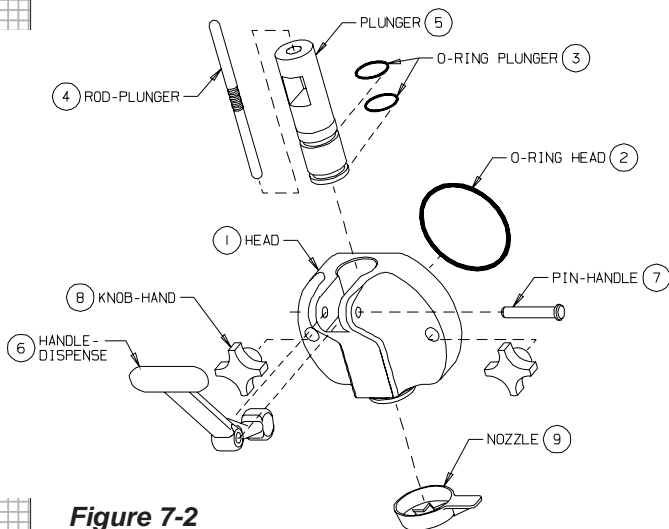
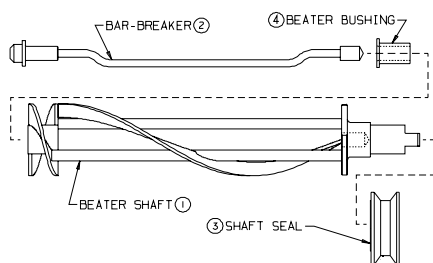
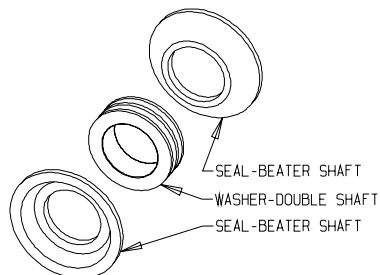

Figure 7-2
Figure 7-3
Figure 7-5
1. Remove plunger rod (4, figure 7-2) by lifting it up and pulling the bottom out and down. Remove the hand knobs (8) and pull the dispensing head (1) straight out.
2. Remove the handle pin (7), plunger (5) and nozzle (9) from head (1).
3. Remove the beater shaft (1, figure 7-3) from the cylinder. Then remove breaker bar (2), beater bushing (4) and shaft seal (3) from the beater shaft.
6. Remove O-rings (2) from mix feed tube (1).
7. Remove regulator (3) from mix feed tube. Remove O-ring (4) from regulator.
8. Remove O-ring (2, figure 7-2) from head (1). Remove O-rings (3) from plunger (5). Remove the seals from the washer on the shaft seal assembly (3, figure 7-3). Disassemble the shaft seal assembly (figure 7-5).